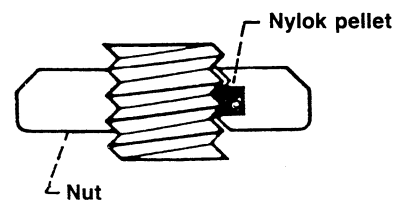

Figure 4.—Nylok pellet locknut.
- (1) The nut can be formed in one operation.
- (2) The temperature range is limited only by the parent metal, its plating, or both.
- (3) The nut can be reused approximately 10 times before it has to be discarded for loss of locking capability.
**Nylok pellet.**—The Nylok8 pellet (of nylon) is usually installed in the nut threads as shown in figure 4. A pellet or patch projects from the threads. When mating threads engage, compression creates a counterforce that results in locking contact. The main drawback of this pellet is that its maximum operating temperature is approximately 250 °F. The nylon pellet will also be damaged quickly by reassembly.